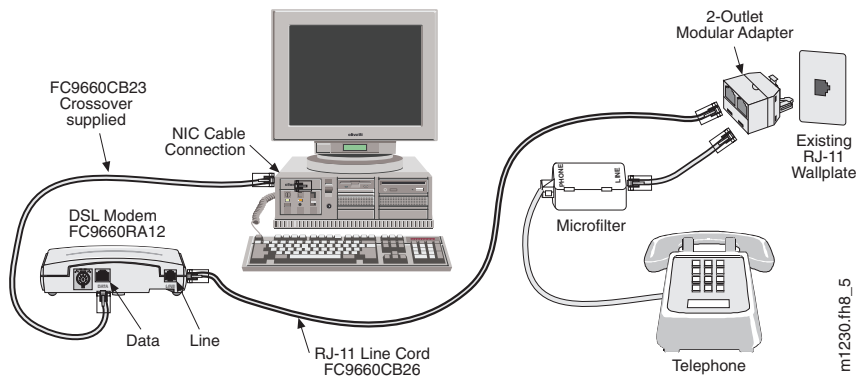

Figure 3-5: Ethernet Cable Connection
- For an Ethernet connection, connect one end of the Ethernet (crossover) cable, part number FC9660CB23, to the RJ-45 slot titled DATA on the back of the DSL modem and connect the other end of the Ethernet cable to the network interface card in back of the computer. See Figure 3-5 for examples.